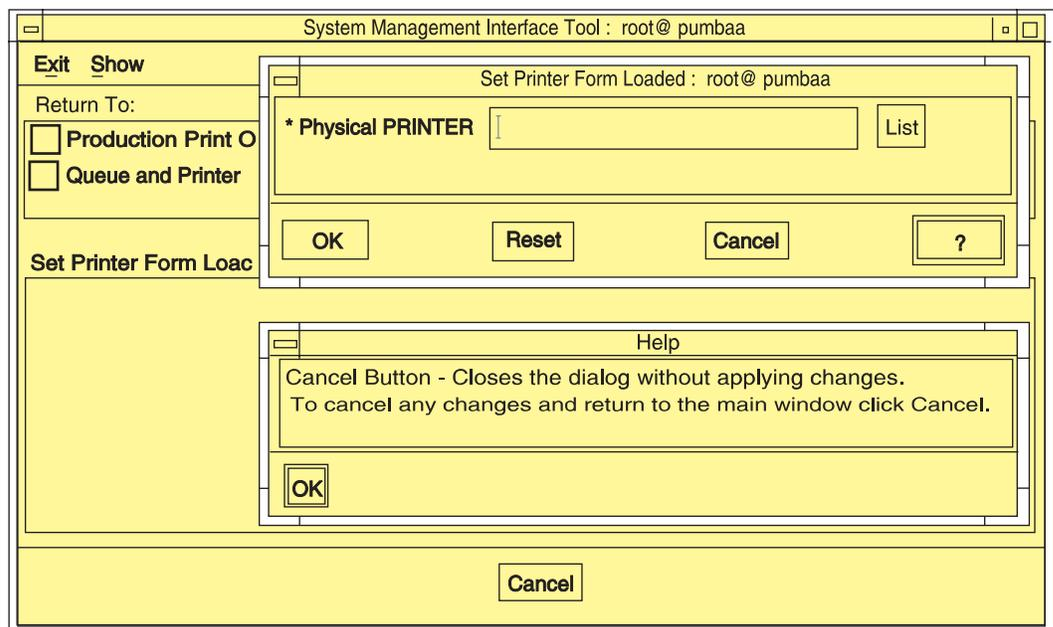

Figure 67. Help for SMIT Window Fields and Buttons
1. Select the button labeled with a question mark at the bottom right of the window. A **Help** window displays beneath the SMIT window. Figure 67 shows the results of selecting the question mark button.